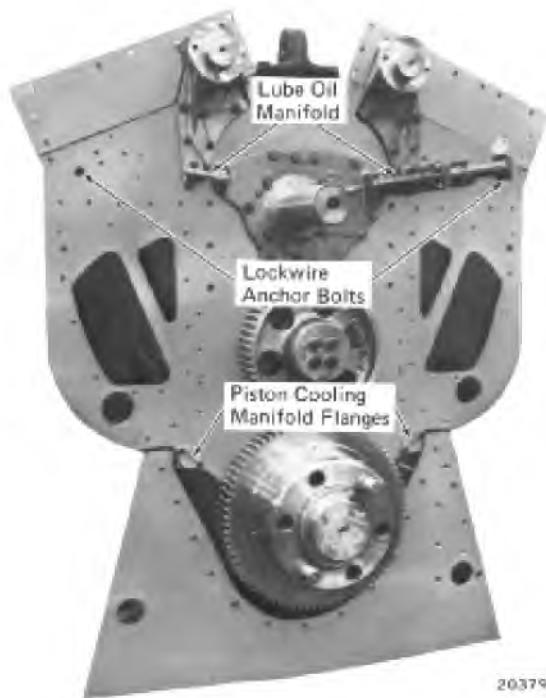

Fig. 7-9 -- Lube Oil Manifold Application
1. If the flanges Governing the piston cooling manifold openings on the crankcase end plate have been removed, install the flange gaskets, flanges, and 3/8"-24 bolts, Fig. 7-9. Torque the bolts to 37 N-m (27 ft-lbs) and lockwire.
3. Install the previously assembled manifold section and the stubshaft to left bank camshaft oil line, Fig. 7-9, being sure to place gaskets under the manifold sections. Tighten the 3/8"-24 bolts to 37 N-m (27 ft-lbs) and lockwire.
4. Install two 1/2"-20 bolts, Fig. 7-9, and tighten to 88 N-m (65 ft-lbs) torque. These bolts will be used for an anchor for lockwiring camshaft drive housing to crankcase bolts.